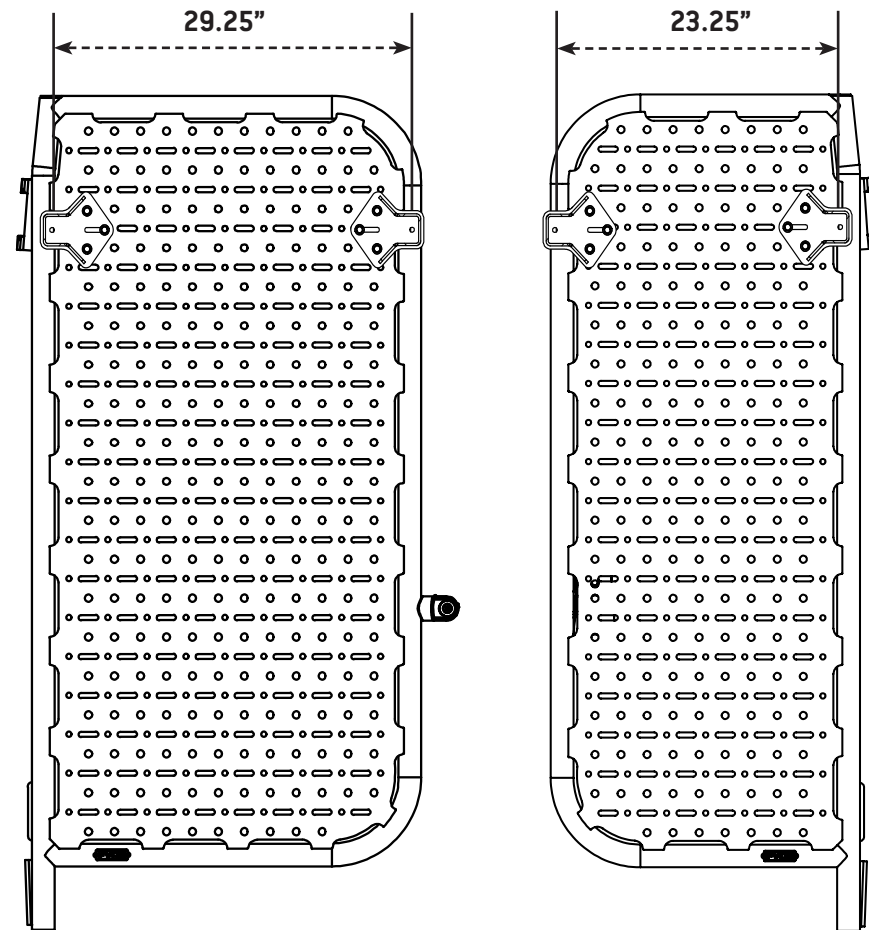

FIG 3
**2.1b Widest Possible Install Width for Posts in the Horizontal Position:** See FIG 3 for largest width between posts for the Driver and Passenger Side Rear Door Platforms.
**2.2b Widest Possible Install Width for Posts in the Vertical Position:** See FIG 3 for largest width between posts for the Driver and Passenger Side Rear Door Platforms.